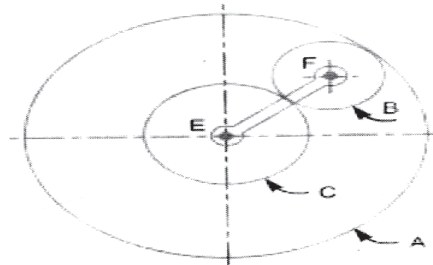

Fig.3
- c)** An epicyclic gear consists of three gears A, B and C as show in Fig.3 [10]